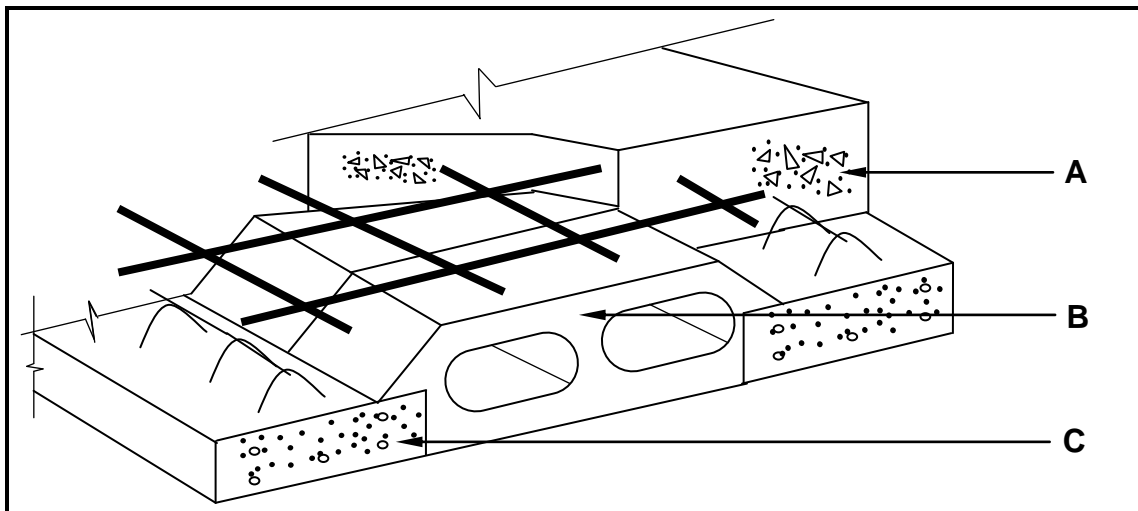

FIGURE 6.5
6.5 FIGURE 6.5 below shows a part of a floor construction. Study FIGURE 6.5 and answer the questions that follow.
6.5.3 State THREE factors that must be considered when planning this type of construction in FIGURE 6.5. (3)